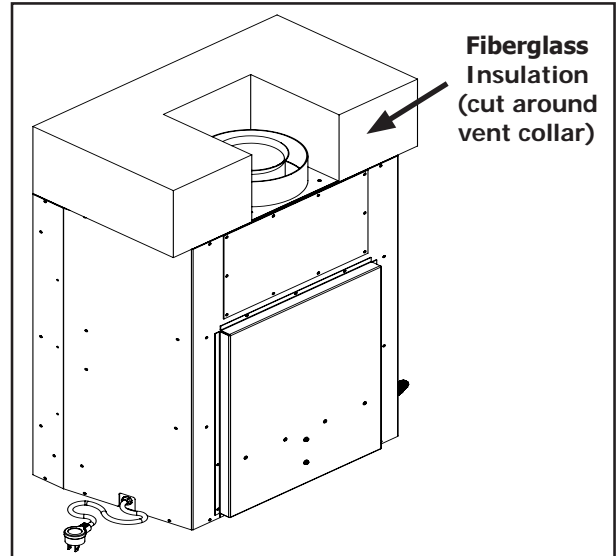

Figure 26. Unit Insulation - Top Vent
**Top Vent:** When using the top vent configuration only the fiberglass insulation is required. Cut a notch in the insulation, to fit around the vent collar, and place on top of the unit as shown in Figure 26.